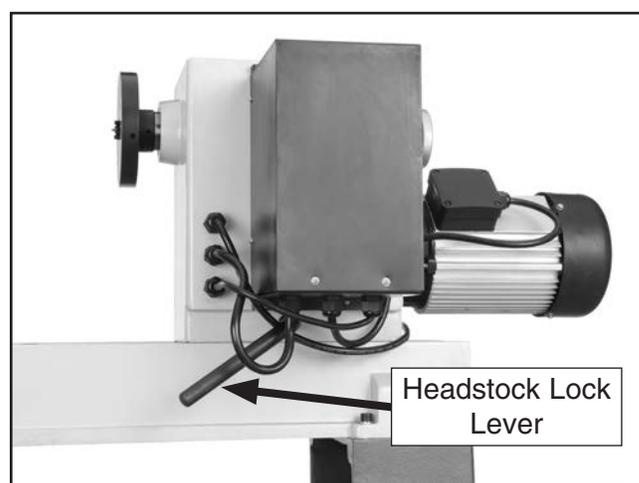

Figure 19. Headstock lock lever location.
2. Loosen headstock lock lever (see **Figure 19**).